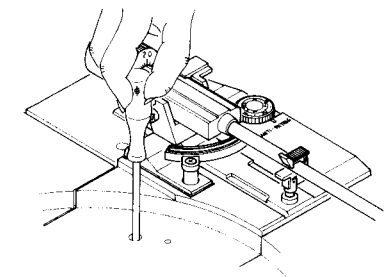

Fig. 30
6-(5) Lead-out Adjustment (Fig. 30)